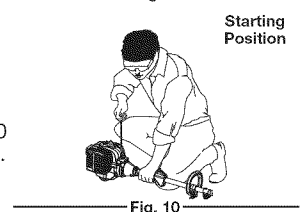

Fig. 10
WARNING: Avoid accidental starting. Make sure to be in the starting position when pulling the starter rope (Fig. 10). To avoid serious injury, the operator and unit must be in a stable position while starting.
5. Crouch in the starting position (Fig. 10). Do not squeeze the throttle. Pull the starter rope in a controlled motion until the unit starts.
5. Crouch in the starting position (Fig. 10). Do not squeeze the throttle. Place the Plug-In Power Start or Power Bit Start into the back of the unit. Refer to the Operation section of the Plug-In Power Start or Power Bit Start operator's manual.
6. Press and hold the ON (I) button of the Plug-in Power Start or Power Bit Start equipped drill in intervals no longer than 4 seconds each until the unit starts.
7. Wait and allow the unit to idle for 5 - 10 seconds. If the unit stops running during this time, squeeze the throttle control, then press and hold the ON (I) button of the Plug-in Power Start or Power Bit Start equipped drill in intervals no longer than 4 seconds each until the unit starts.